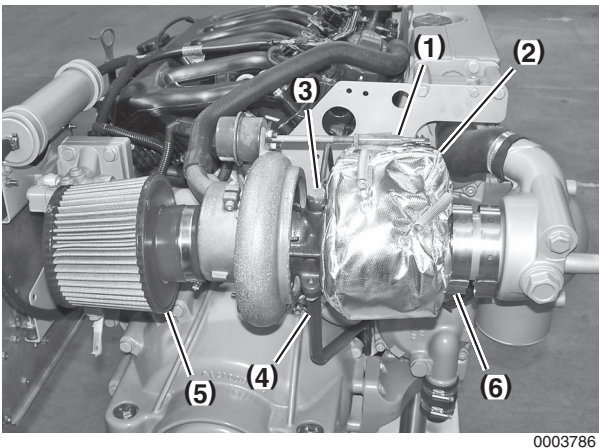

Figure 9-6
5. Connect mixing elbow to turbocharger and tighten clamps (**Figure 9-6, (6)**) securely.
6. Install new gaskets and connect lubrication return line (**Figure 9-6, (4)**) and supply line (**Figure 9-6, (3)**).
7. Install insulating cover (**Figure 9-6, (2)**) and connect wastegate control rod (**Figure 9-6, (1)**).
8. Install air filter (**Figure 9-6, (5)**).